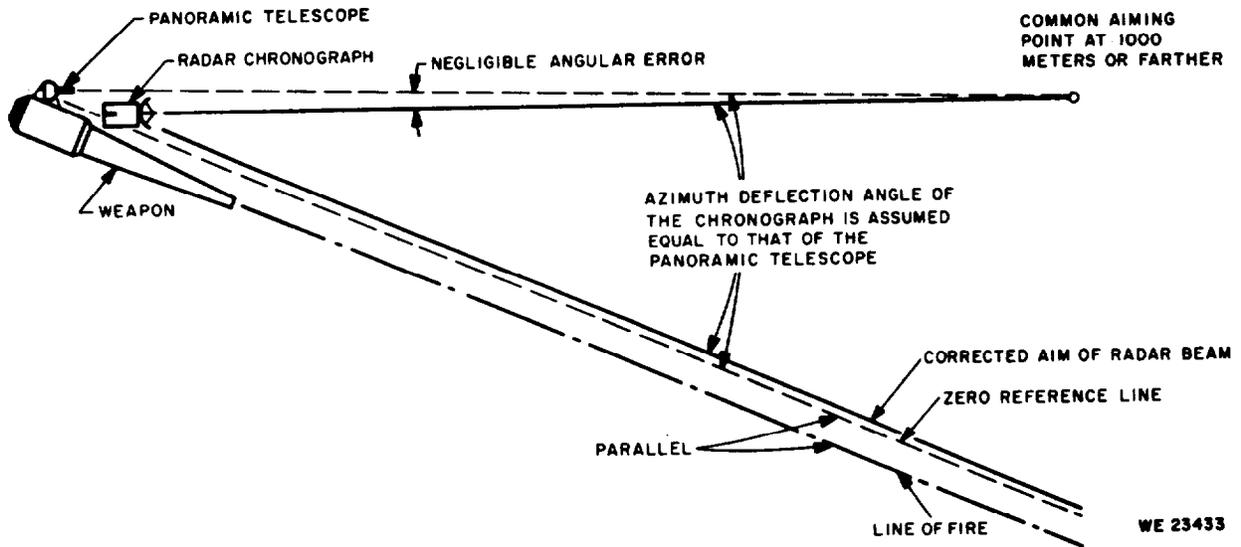

Figure 2-22. Diagram of common aiming point method.
- (1) With the weapon in the initial direction of lay and the panoramic telescope referred to the aiming point note the referred deflection.
- (2) Check that the chronograph is leveled by means of leveling vials on the mount yoke and leveling base.
- (3) Aim weapon panoramic telescope at an aiming point as specified in the appropriate weapon manual.
- (4) Read azimuth deflection on weapon panoramic telescope. Record this reading only.
- (5) Release the azimuth deflection lock handle.
- (6) Sight through telescope XM128 (on the chronograph) at the common aiming point (fig. 2-22).
- (7) Tighten the azimuth deflection lock handle.
- (8) Release the azimuth scale lock knob.
- (9) Rotate the azimuth deflection scale to 0 .
- (10) Tighten the azimuth scale lock knob.
- (11) Release the azimuth deflection lock handle.
- (12) Rotate the yoke until the azimuth deflection scale indicates the same reading as that of the weapon panoramic telescope in (4) above.
- (13) Tighten the azimuth deflection lock handle.
- (14) Release the azimuth scale lock knob and rotate deflection scale to the reading noted in (1) above.
- (15) Tighten the azimuth scale lock knob.
- (16) Chronograph is now optically alined with axis of gun tube.